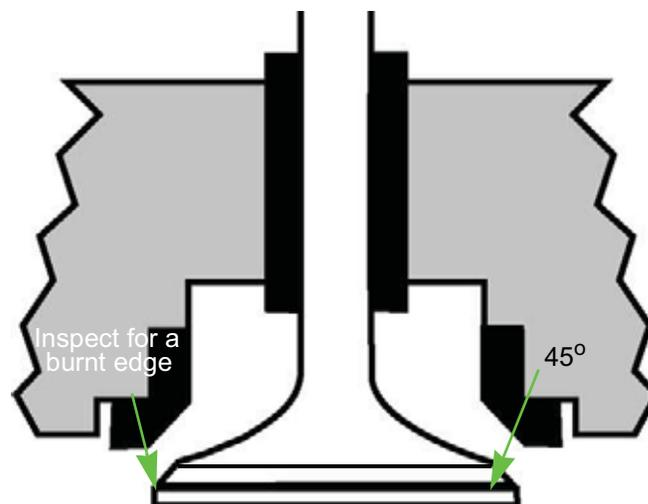

Figure 9.15
6. Inspect the valve stem. See Figure 9.15.